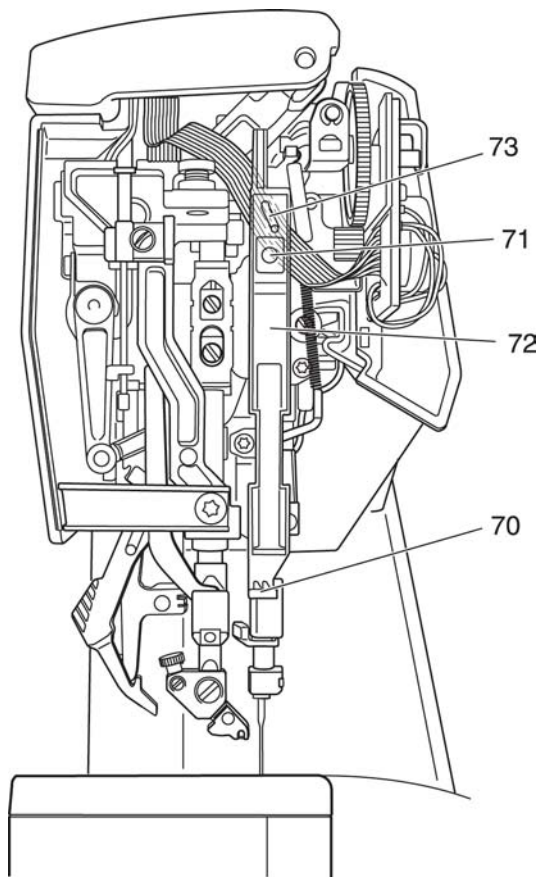

Fig. 19a
- Push threader lever 70 fully down (fig. 19a).
- Tighten Allan screw 71 in this position (fig. 19a).